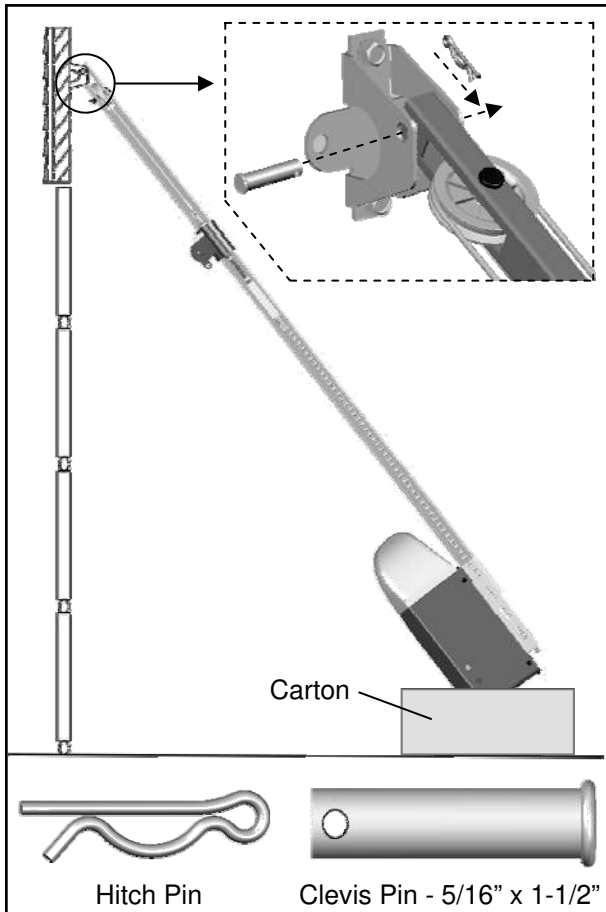

Fig.1
1. As shown in Fig.1, use the packaging carton as temporary support for the Opener. Place the Opener on carton to prevent damage.